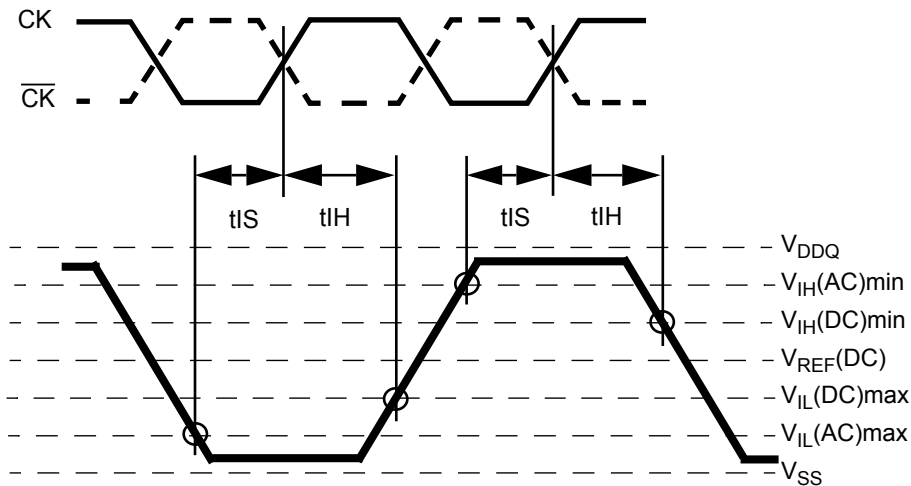

Figure 21. Differential input waveform timing -  $t_{IS}$  and  $t_{IH}$
22. Input waveform timing is referenced from the input signal crossing at the  $V_{IH}(\text{AC})$  level for a rising signal and  $V_{IL}(\text{AC})$  for a falling signal applied to the device under test. See Figure 21.
23. Input waveform timing is referenced from the input signal crossing at the  $V_{IL}(\text{DC})$  level for a rising signal and  $V_{IH}(\text{DC})$  for a falling signal applied to the device under test. See Figure 21.